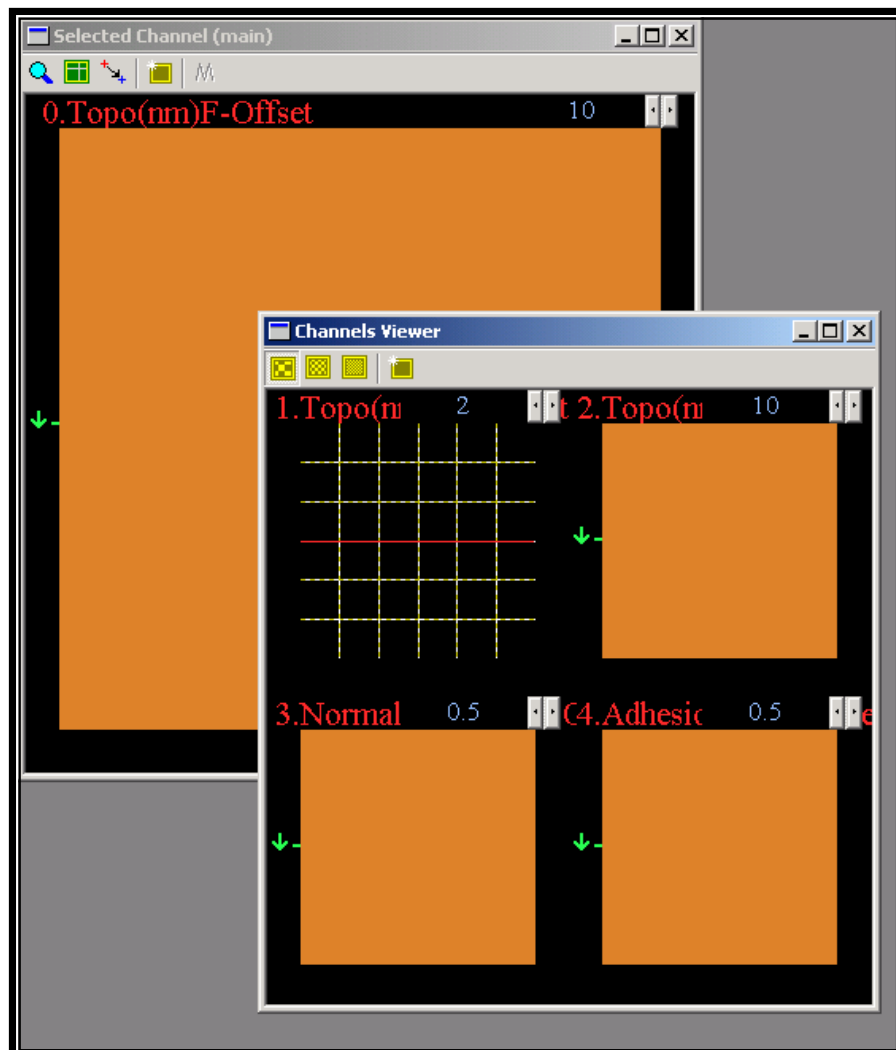

Fig. 4.47
- In the Viewer Options Menu (see Fig. 4.31) select the views as shown in Fig 4.47:
In the Viewer Options (Fig. 4.31), for each image, as initial settings, select the options shown in Fig. 4.47. (How to do this is explained in step 17).
As you can see in Fig. 4.47, in Jumping Mode, the system is performing an F-Z curve at each point in the image. From this data it is possible to make Adhesion and Stiffness maps. This can be done by simply selecting Adhesion and Stiffness as channels to display.